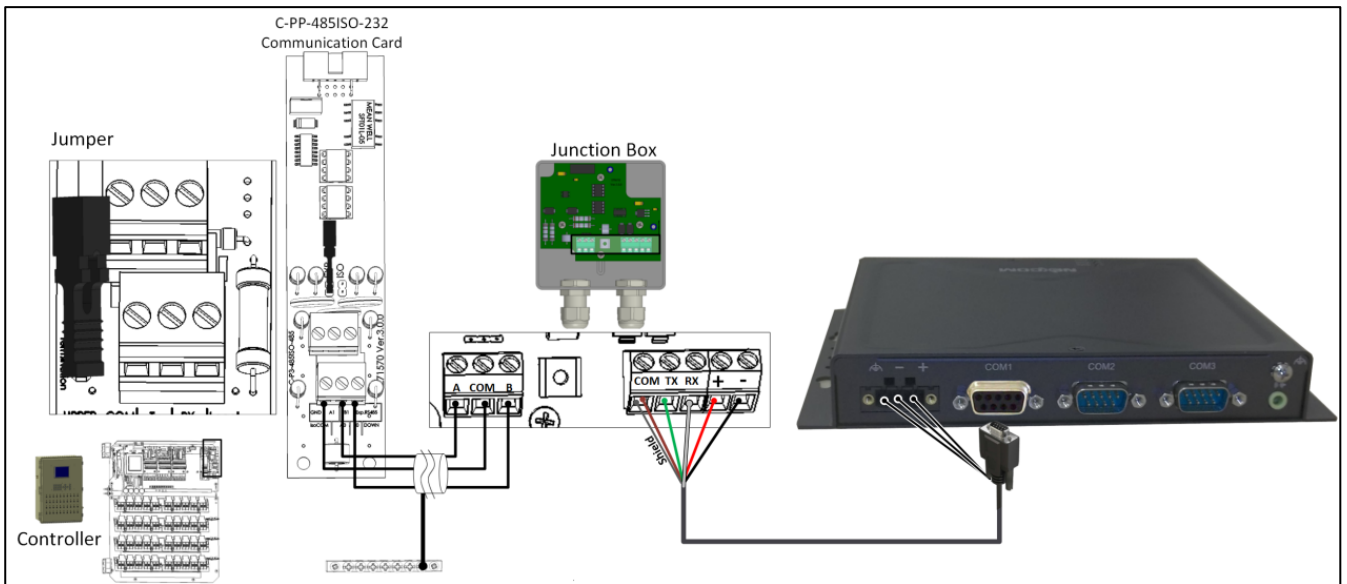

Figure 48: Comm-Box – Controller Termination
- There is no need to install an external 120 Ohm termination resistor in the controller; place a jumper on the communication card at the unit located at the end of chain (Figure 48).